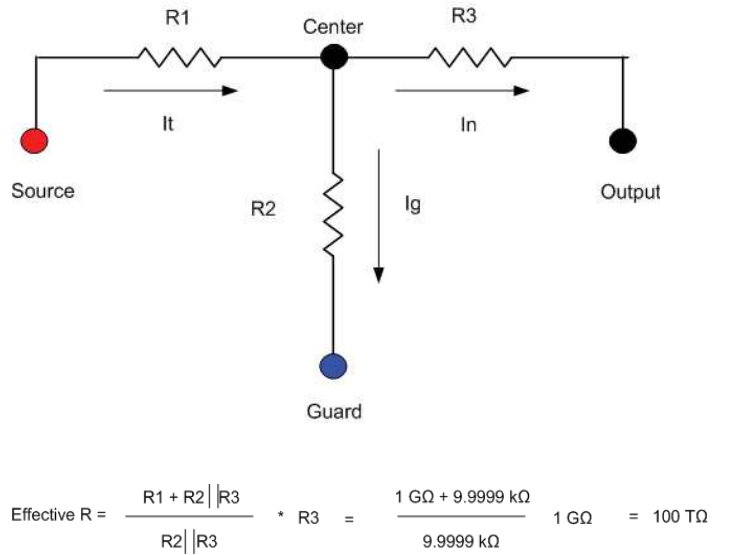

Figure 4-1 Schematic and formulas
3. Calculate the Effective R using the formula in Figure 4.1